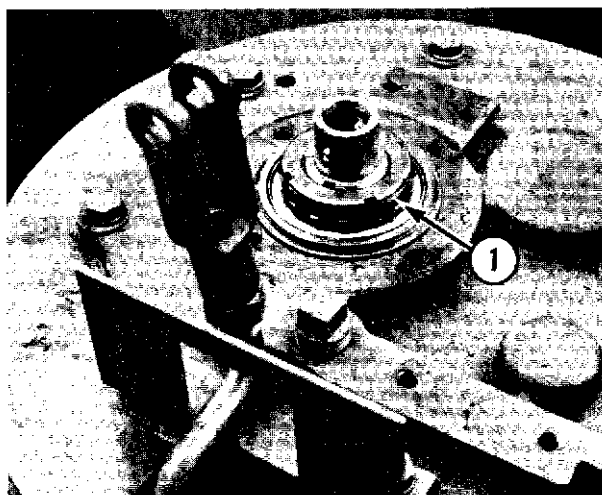

Fig. 11-4
- L. With a punch, disengage the locking tab from the locknut (1, Fig. 11-4) on the planetary shaft.